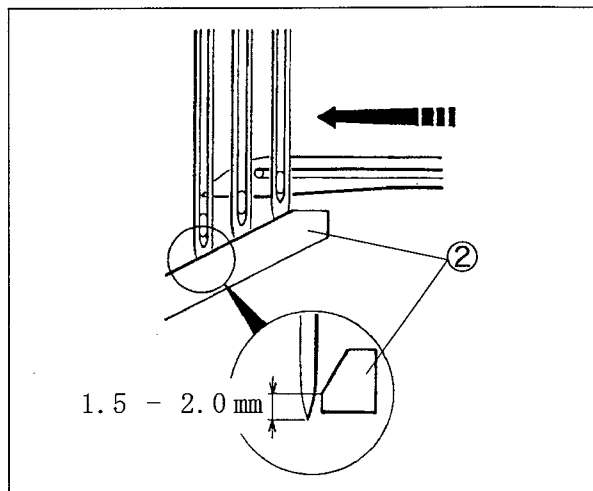
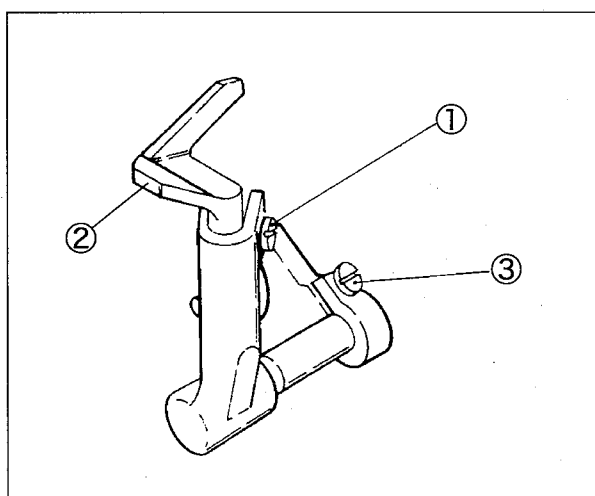

Fig. 6-26
Fig. 6-27
- (1) Turn the handwheel clockwise until the looper tip comes to the center of the left needle. (Fig. 6-26)
- (2) Loosen the screw①. Adjust the height from the needle tip to the angular part of the needle guard(front)② to 1.5 - 2.0 mm.
- (3) Tighten the screw① securely. (Fig. 6-27)
- (5) Tighten the screws① and ③ securely. (Fig. 6-27)